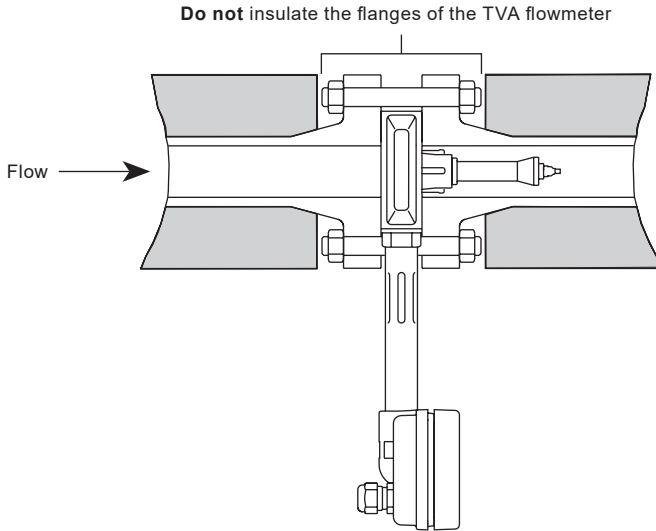

Fig. 6 Pipeline insulation
**CAUTION: Do not lag (insulate) the TVA flowmeter or mating flanges as this may result in excessive temperatures in the electronics. Exceeding specified temperature limits will invalidate the warranty, adversely effect the performance and may damage the TVA flowmeter, see Figure 6.**